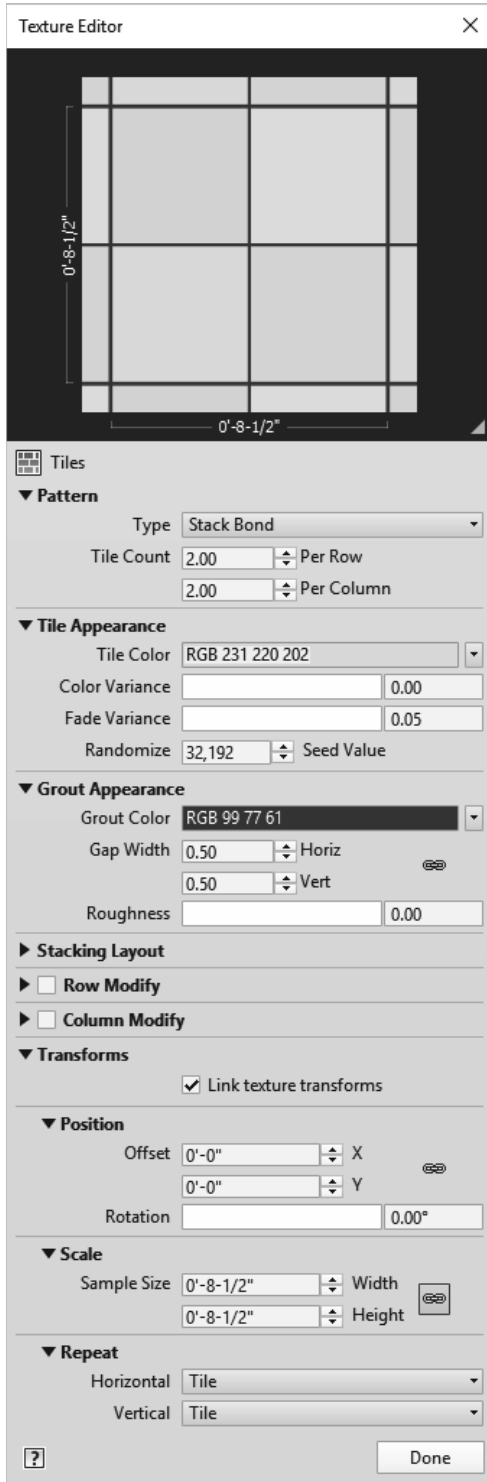

FIGURE 4-4.5 Texture editor for CT1
You are now in the *Texture Editor* shown in Figure 4-4.5. Here you can adjust all sorts of settings related to how the tile pattern should appear. One of the adjustments one can make is the tile pattern. Is the pattern stack bond, running bond, common Flemish bond, etc.? You can even adjust the grout color and size.
22. Under the Ceramic heading, click **Edit...** and make the adjustments shown in Figure 4-4.5.